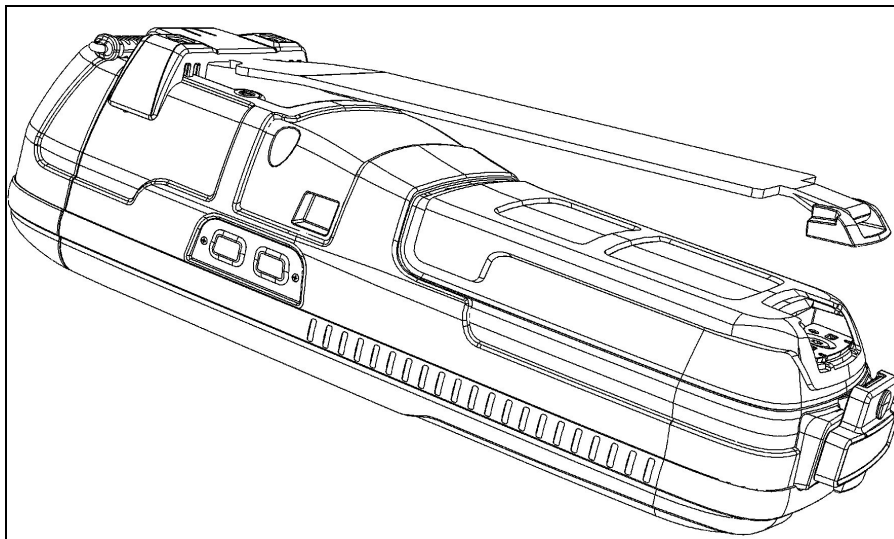

Figure 7-1 Remove Handstrap
3. Detach the handstrap from the MCT404. See Figure 7-1
2. Remove the handstrap and the battery. See Figure 7-1